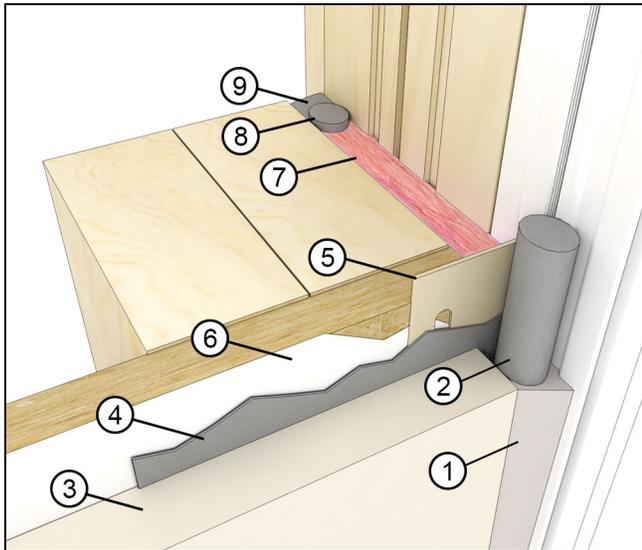

Figure 67
1. For ALL applications: Once the exterior finish such as siding or brick veneer is installed, apply bead of sealant between the finish and the frame exterior or casing along the sides. Apply additional beads approximately 1"- 2" (25-51) at the ends on top of the drip cap. Use a backer rod when necessary. See Figure 67 and Figure 68.